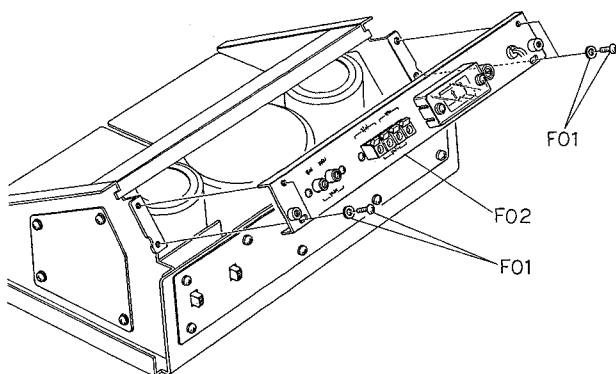

Fig. 3.2
Remove cabinet ass'y (item 3.1). Refer to Fig. 3.2 and remove F01 and F02.